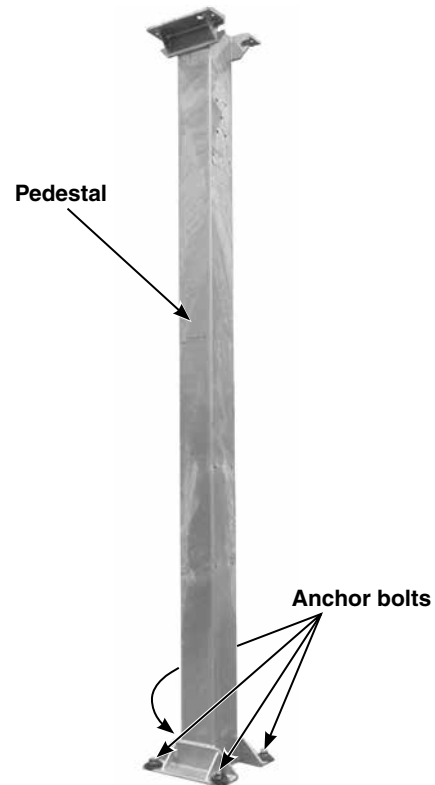

Figure 21. Adjust the lower set of anchor-bolt nuts to generally plumb and level the pedestals.
- b. Adjust the lower set of anchor-bolt nuts to generally plumb and level the pedestals. The upper set of anchor-bolt nuts should be only loosely attached at this time. See Figure 21.